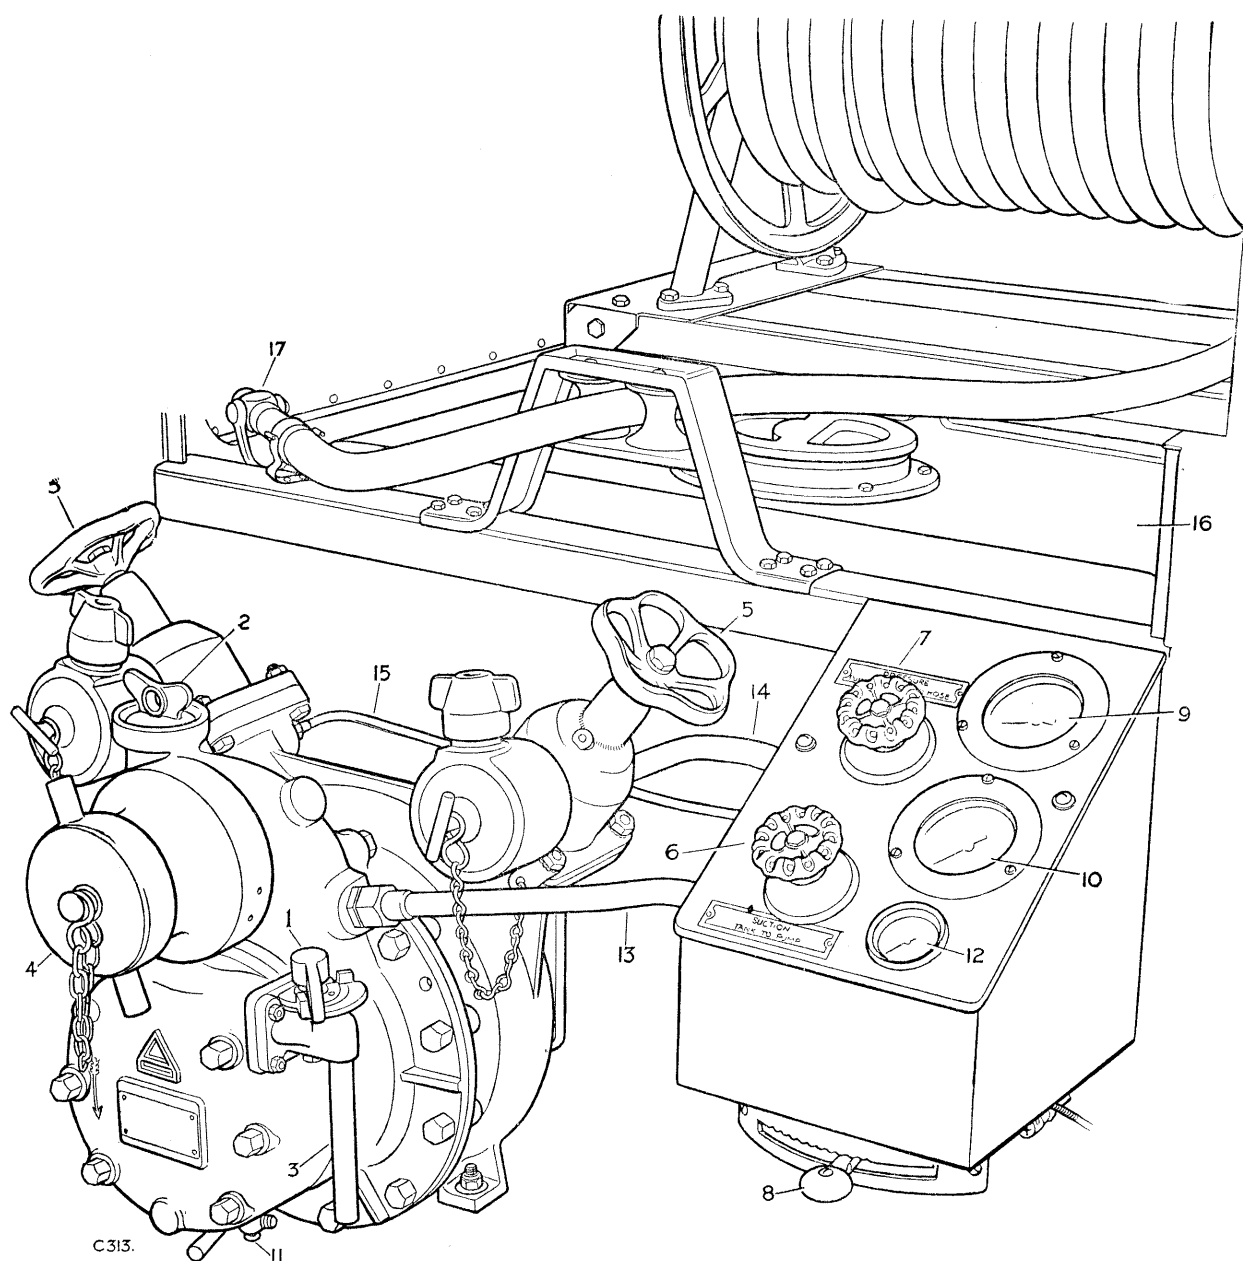

Fig. T-77—Pump and controls
To prime the pump (Fig. T-77)
To engage the pump drive (Fig. T-77)
To pump from first-aid tank (Fig. T-77)
To fill first-aid tank from a hydrant (Fig. T-77)
**To pump from a static water supply (Fig. T-77)**
**To pump from a hydrant or gravity feed supply (Fig. T-77)**
2. Select "Working" position with lever (1).
#### To temporarily stop output (Fig. T-77)
(Fig. T-77)